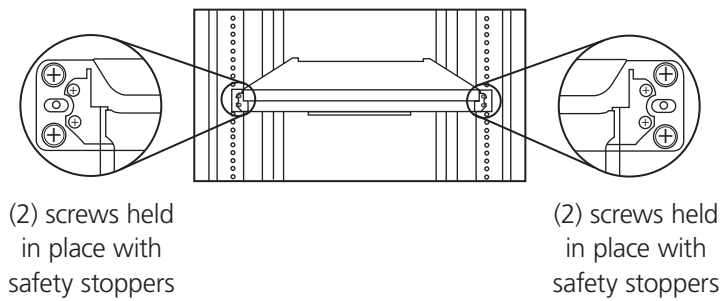

Figure 3-10. Removing the four screws.
7. Remove the four screws held in place with safety stoppers from the front sides of the drawer (left and right) in sequence. See Figure 3-10.